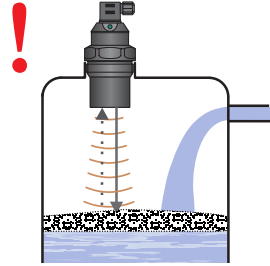

Fig. 10: Thick foam on the surface
- **Foam** may be produced on the surface of the measured liquid during filling, mixing and other processes. The thick foam significantly absorbs the ultrasound signal and may cause malfunction of the device (Fig. 10). In those cases it is necessary to test the device in advance or contact the manufacturer. In case of a **thin layer of foam**, it is also possible to use directional **horn** for improving receipt of the reflected echo.